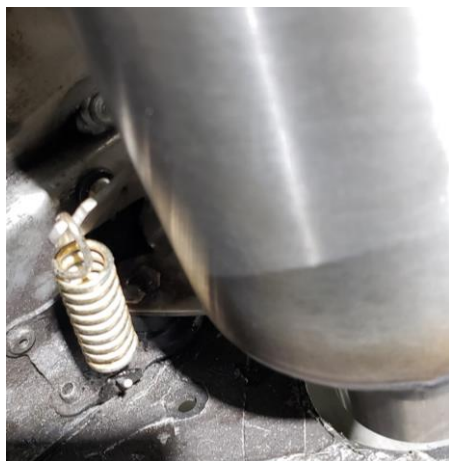

Figure 2
5. Install the three (3) springs onto the muffler inlet, and one (1) spring onto the spring hook on the bottom bracket. **See Figure 2**.